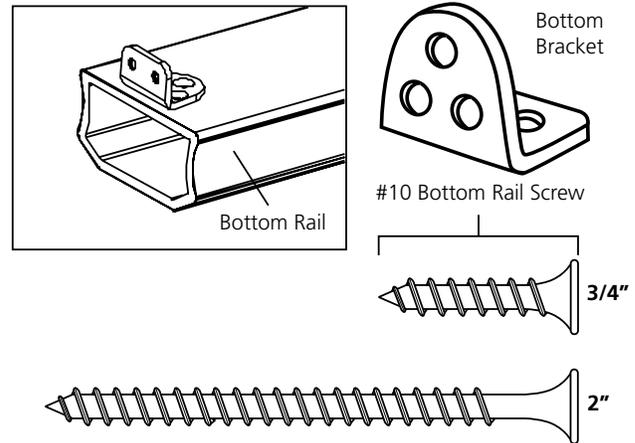

Figure 20
5. Center the bottom bracket on the underside of the bottom rail (Figure 20). Inset the bottom bracket 1/16" from the end of the rail. Mark the three hole locations on the rail. Pre-drill 1/8" holes at the desired locations. Repeat for opposite end.
Rails up to 20 degrees may be mounted to the post face by using the In Line “L” Bracket (Figure 20). Rails should be cut at the appropriate angle to fit tight against post. Cutting rails greater than 20 degrees will result in a rail that does not fully fit on post. Angles greater than 20 degrees require the use of the Angle Mount Bracket.